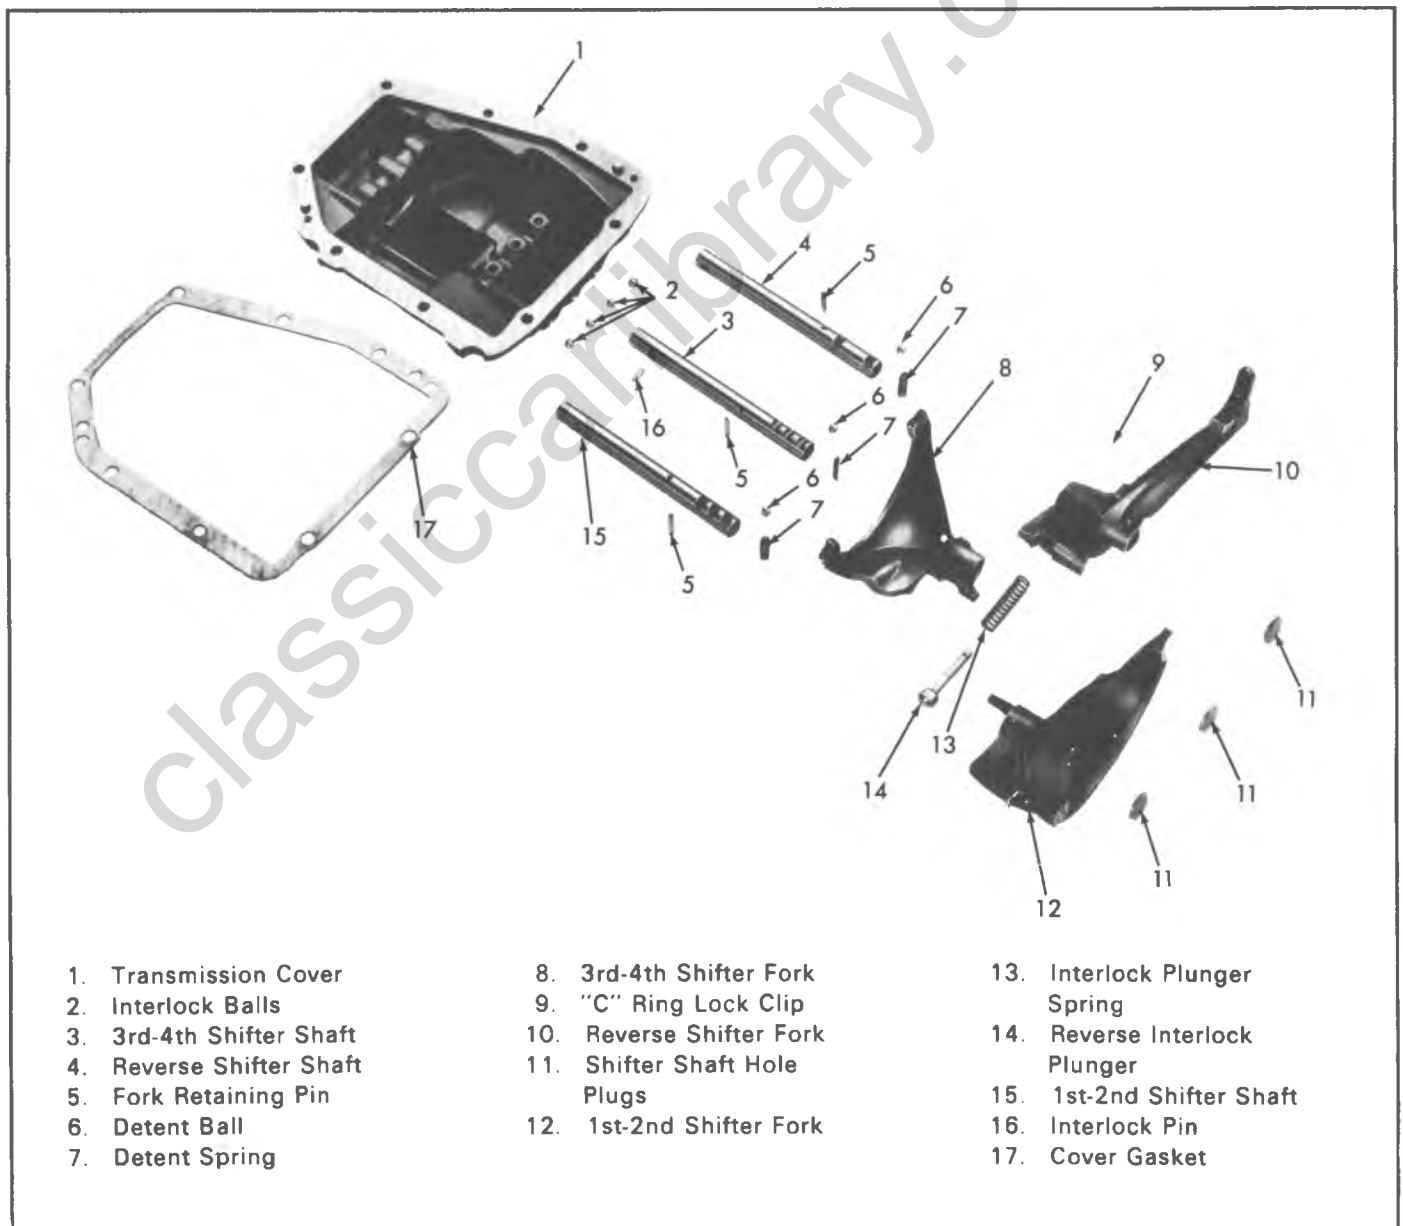
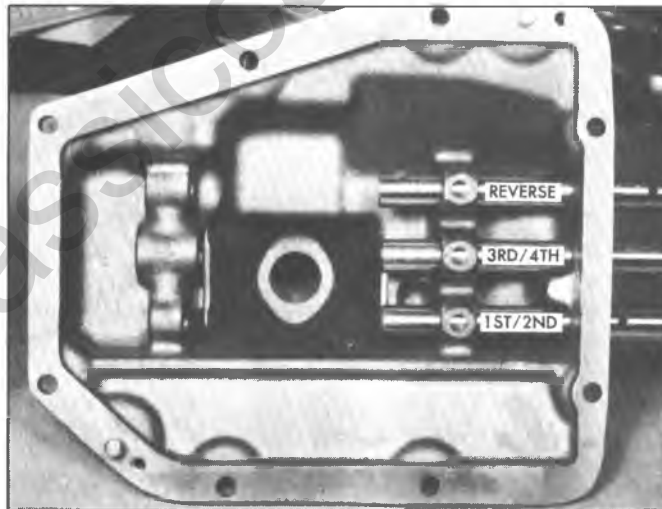

Fig. 1X—Cover Assembly Exploded View
Fig. 2x-Shifter Shaft Installation
**ASSEMBLY (Fig. 1X)**
1. In reassembling the transmission cover, care must be used in installing the shifter shafts. They should be installed in the order shown in Fig. 2X, namely, reverse 3rd-4th, and 1st-2nd. Figure 1X illustrates difference between shafts.
3. Start shifter shafts into cover; depress detent balls with small punch and push shafts on over balls. (See Fig. 2X). Hold reverse fork in position and push shaft through yoke. Install split pin in fork and shaft; then, push fork in neutral position.